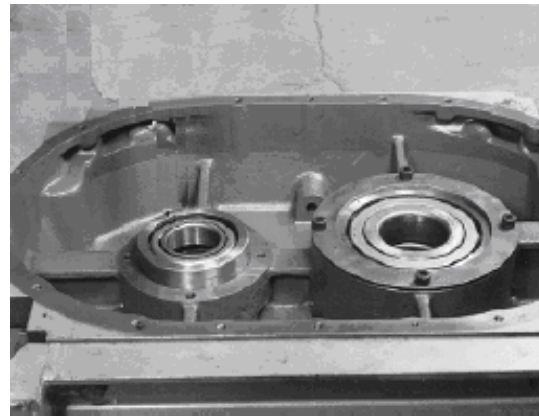

FIGURE 7-6 – BEARING INSTALLATION
6. Install the shaft seal (22, 23), and fit the bearing spacers (20, 21) in the discharge end bearing carrier (4) using the same method as outlined in Steps 1 and 2, page 40 and 41. To prepare for shim set measurement, slip bearings (34, 35) into the bore and install bearing retainer plate (14, 16), FIGURE 7-6. **Bearings must be assembled as directed in Step 5.** Bearings are slip fit in the bore.